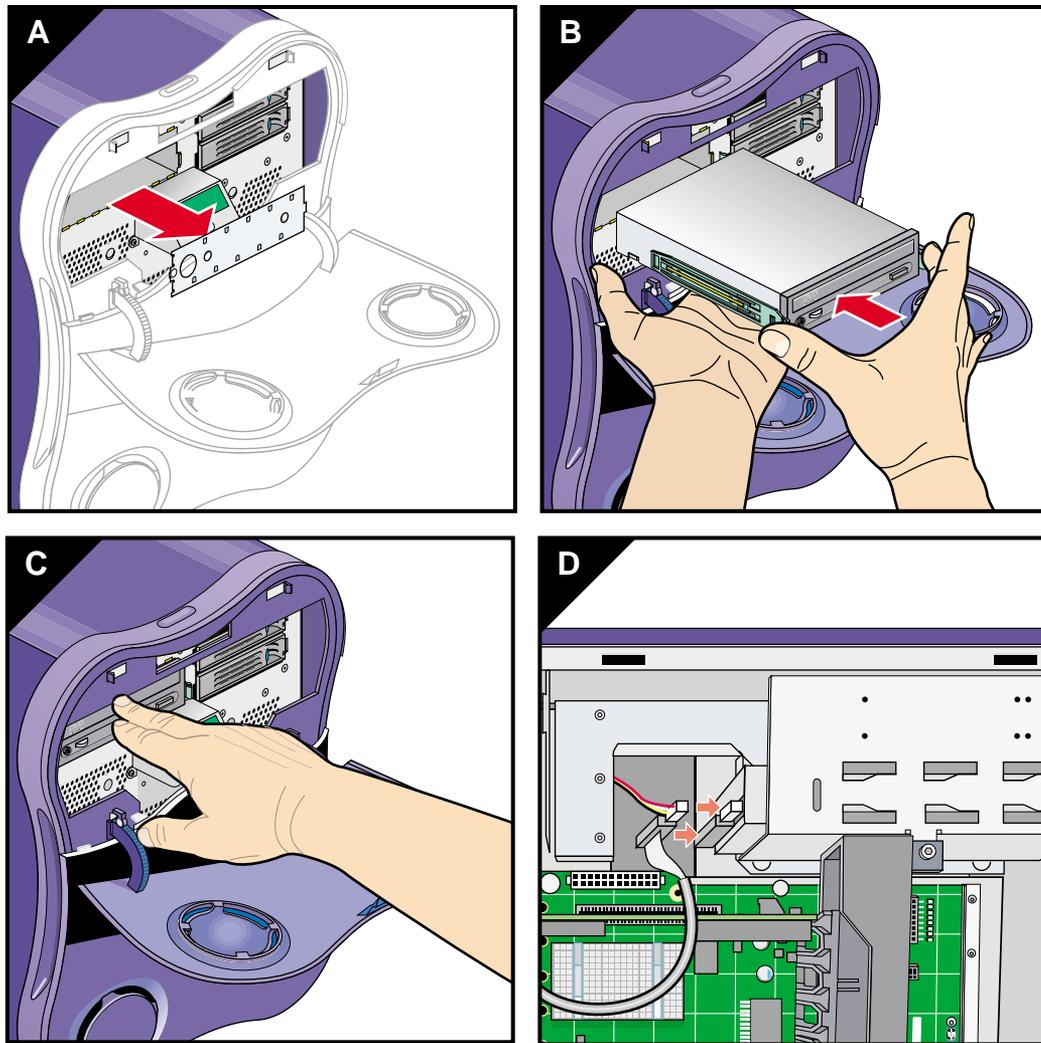

Figure 3-14 Installing the DVD-ROM Drive.
3. Align the drive rails with the slots in the side of the drive cage and slide the drive into the drive cage until it clicks into place (see Figure 3-14).
4. Connect the IDE cable as follows (see Figure 3-14):
5. Connect the power cable to the rear of the drive (see Figure 3-14).